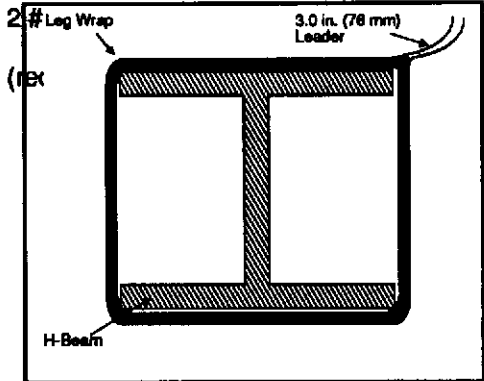

Figure 2. Leg Wrap Installed on an H-Beam Leg.
6. Beginning at the corner of the leg (Figure 2), wrap the leg wrap around the leg so that the 3-inch vinyl leader at each end meet.